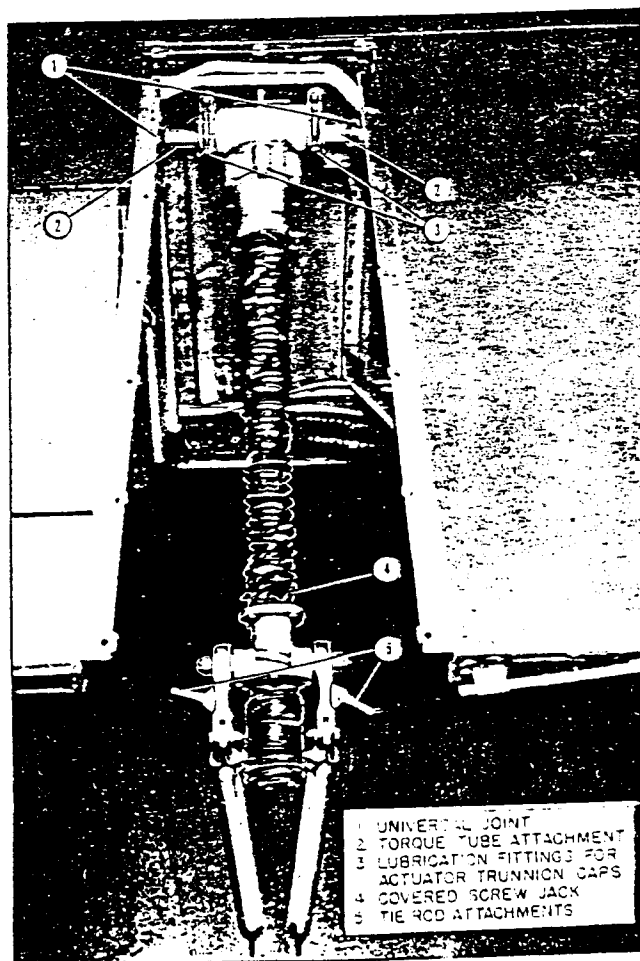

Figure 24. Landing Flap Actuator Installed
(3) LANDING FLAP ACTUATORS. (See figure 24.)